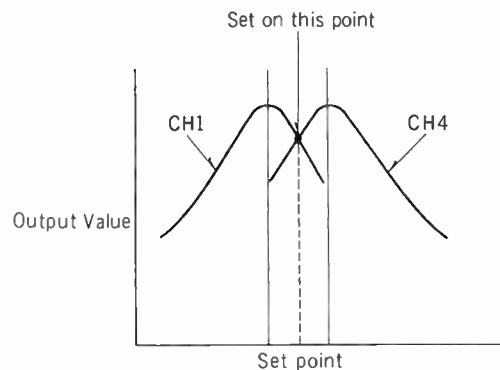

FIGURE 13
4. When the both values are not maximum on the same point, set it on the point where the both values are equal as shown in figure 13.